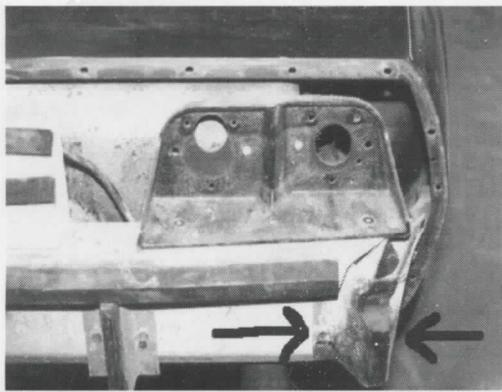

FIG. 6
6. FOR 75 - 79 CARS... REMOVE THE LEFT AND RIGHT BUMPERETTE REINFORCEMENT BRACKETS FROM IMPACT BAR (SEE FIG. 6).